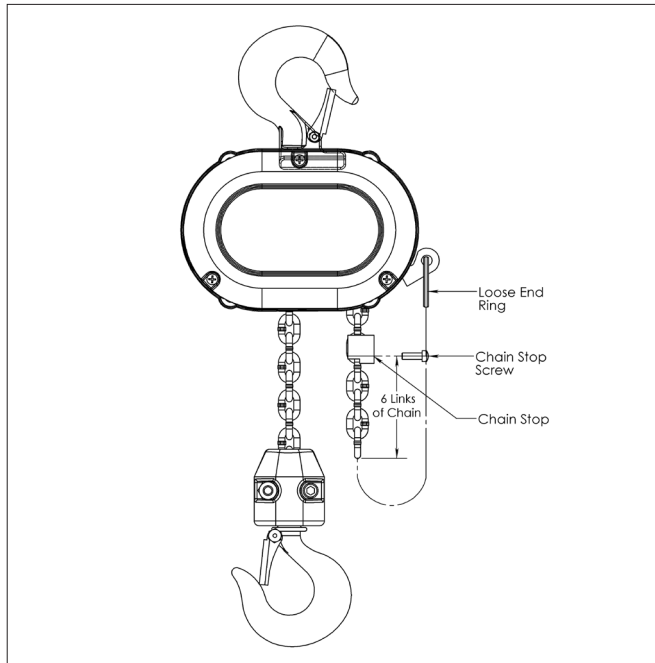

Figure 21 - Chain Stop
4. Jog the UP push button while pulling on the free end of wire until the chain comes out of the hoist. Remove the wire and attach the chain stop as shown in Figure 21. On units with chain container, place chain stop and loose end of chain in chain container. Attach chain container to chain guide.